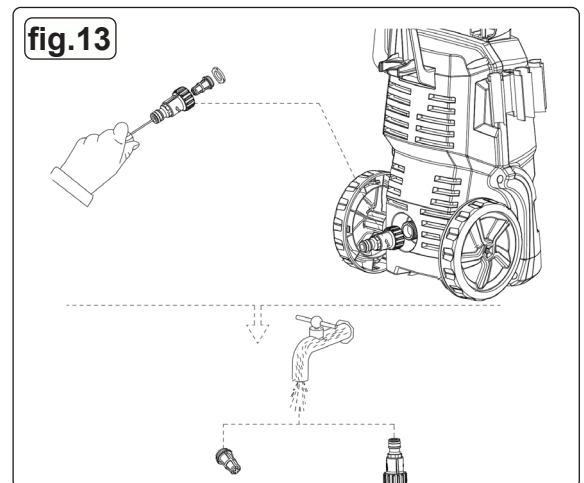

fig.13
7.1. CLEANING OF WATER INLET FILTER (FIG.13)